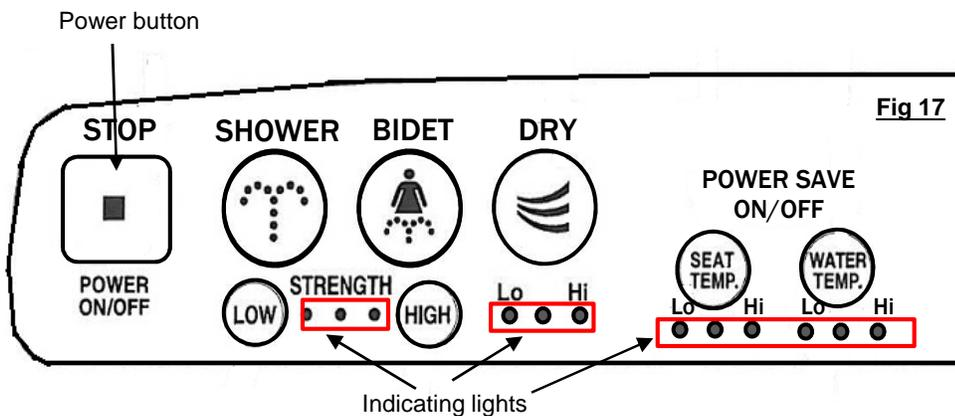

Fig 17
- (III) Press the power button for 3 seconds to turn on the unit. (Fig 17)
- (IV) Set seat temperature to Hi by pressing SEAT TEMP button.
- (V) Set water temperature to Hi by pressing WATER TEMP button.